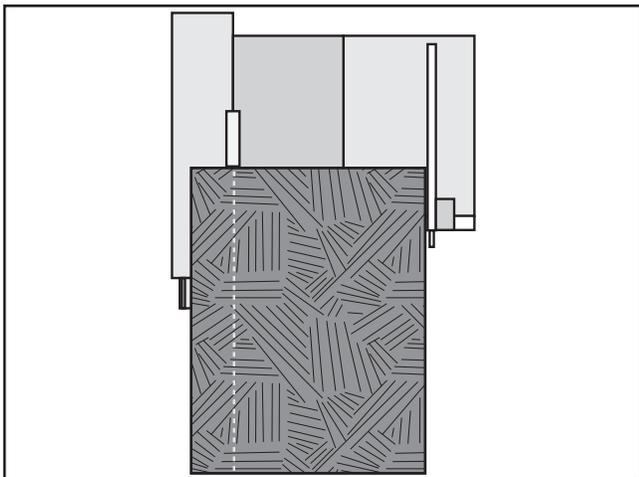

Figure 48. Traditional rip cutting.
This saw also has the capability of rip cutting in the same manner as a traditional table saw, as shown **Figure 48**.
4. Load the workpiece onto the table saw. The set up should look similar to **Figure 48**.